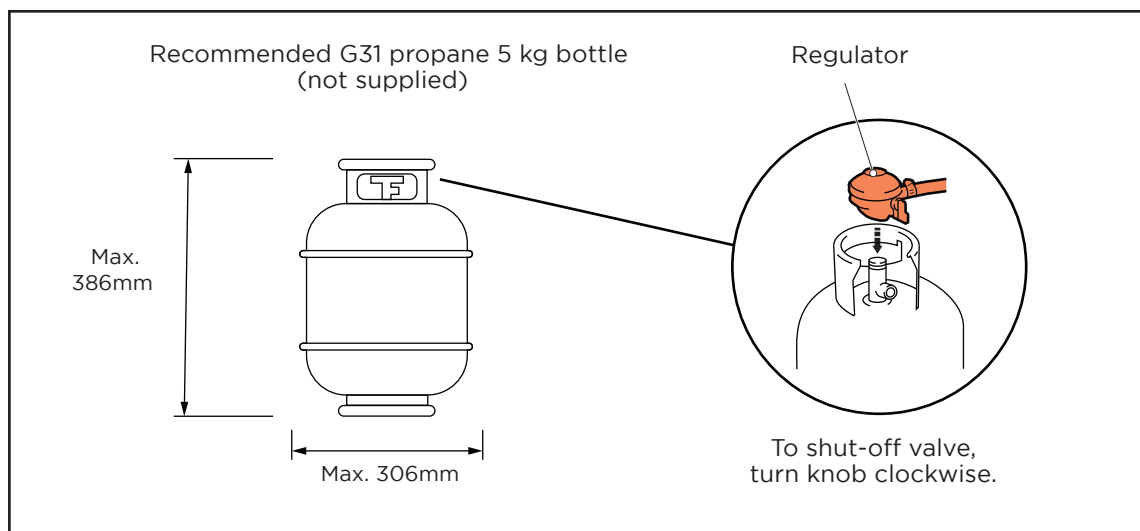

Fig.6 Gas bottle size.
- We suggest using a 5KG gas bottle, maximum height 386mm and diameter 306mm as shown in fig.6.